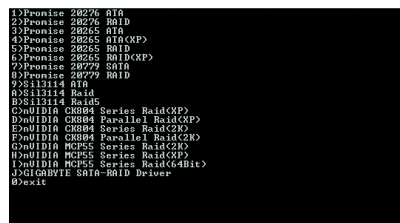
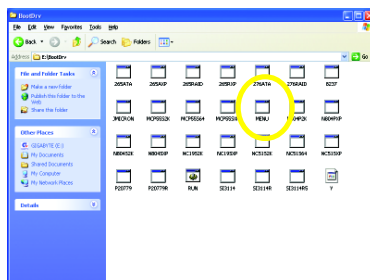

Figure 16
Figure 17
Step 2: When the controller menu (Figure 16) appears, remove the startup disk and insert the blank formatted disk. Select the controller driver by pressing the corresponding letter from the menu. For example, from the menu in Figure 16, press J to select **J) GIGABYTE SATA-RAID Driver** if you wish to install Windows XP. Your system will then automatically zip and transfer this driver file to the floppy disk. Press 0 to exit when finished.
Use an alternative system and insert the GIGABYTE motherboard driver CD-ROM. From the CD-ROM drive folder, double click the **MENU.exe** file in the **BootDrv** folder (Figure 17). A command prompt window will open similar to that in Figure 16.